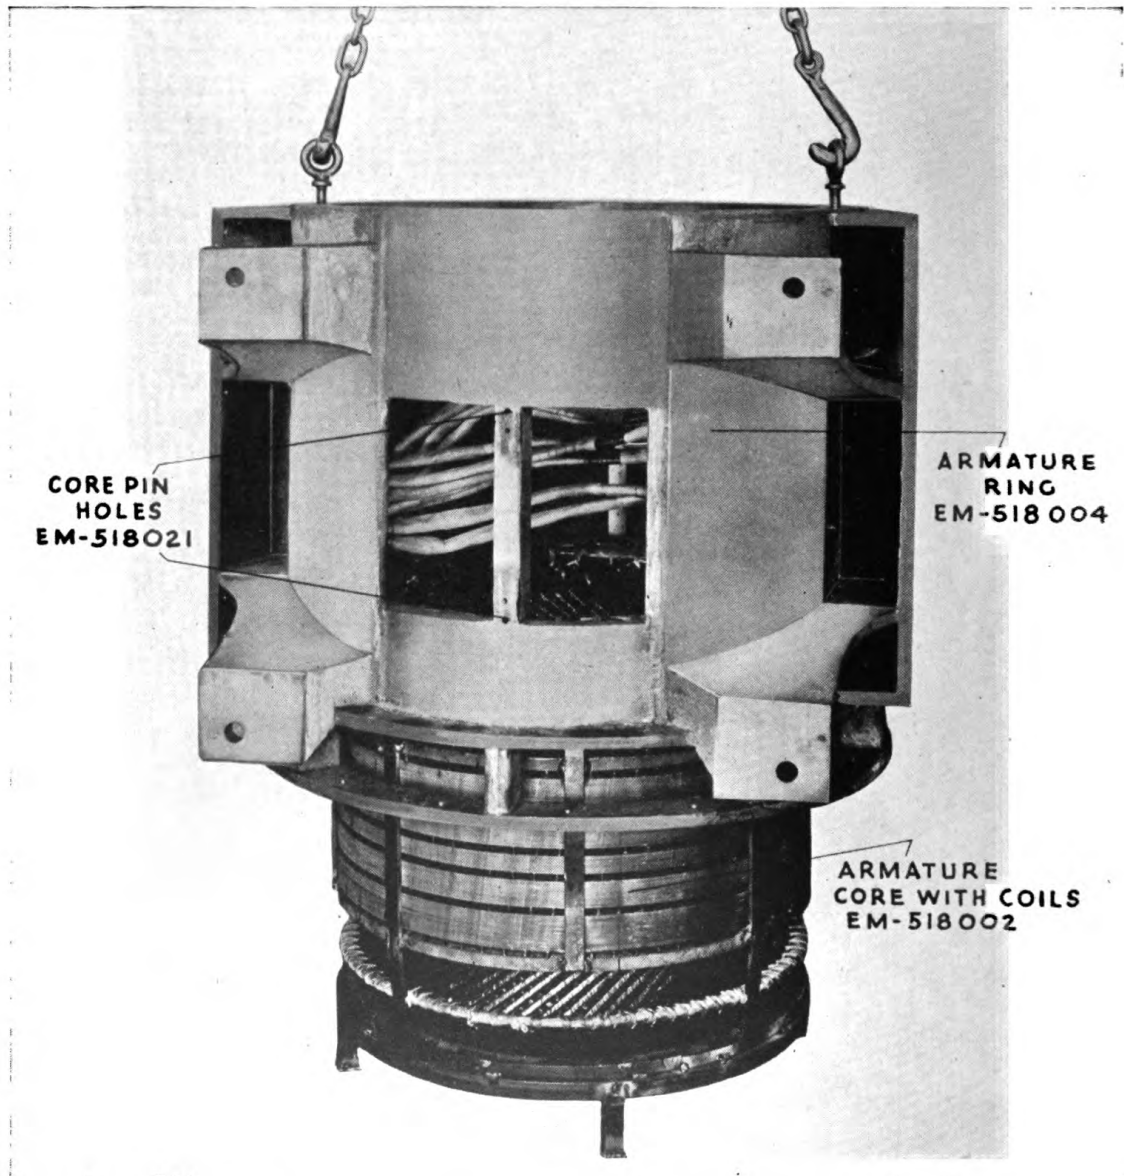

FIG. 15—Generator Armature Core and Ring Assembly Procedure
- Figure 15 Generator armature core and ring assembly procedure.